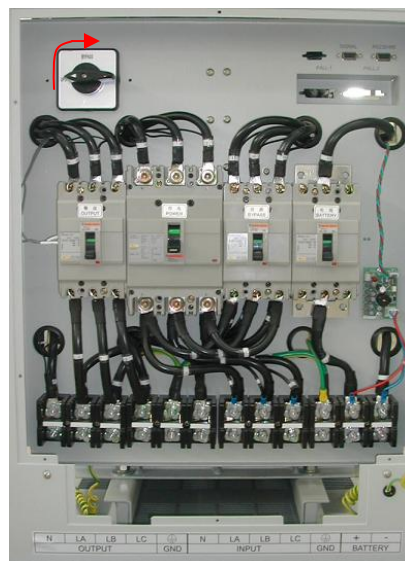

Figure 5-2 Maintenance bypass switch operation
② Diagnosis ready program:
- B. Close the maintenance bypass switch or turn it to "BYPASS", as shown in figure 5-2.